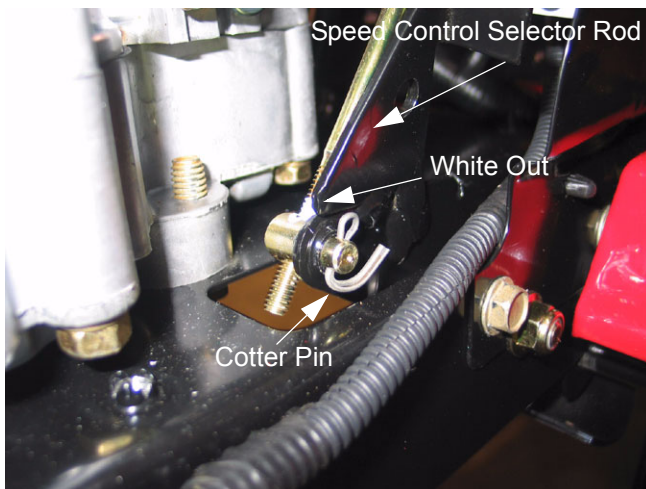

Figure 65
- 17.2. Remove the cotter pin securing the speed control selector rod to the speed control latch. Slide the ferrule from the latch. See Figure 65.